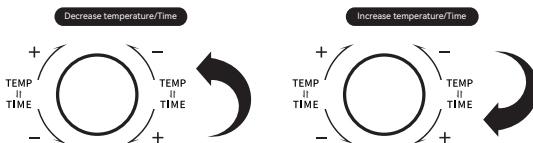

Figure 4
- ① Rotate the knob to set the temperature between 500°C (min) and 800°C (max).
- ② Rotate counterclockwise to decrease temperature (-) and clockwise to increase (+) (see Figure 4).
- ① Click the knob once. A short beep will sound, and the time display will flash, entering timer mode.
- ② Rotate the knob to set the countdown (30 seconds to 10 minutes). Counterclockwise reduces time; clockwise increases it (see Figure 4).
- ③ Click the knob again to start the countdown. During countdown, click to reset.
- ④ After countdown, the buzzer will beep 5 times, but heating continues.
- ① Long-press the knob until the display shows "OFF." Heating stops, but the fan continues for 10 minutes.
- ② Do not turn off the power switch until the fan stops.
- ③ After the fan stops, turn off the power switch and unplug the device.